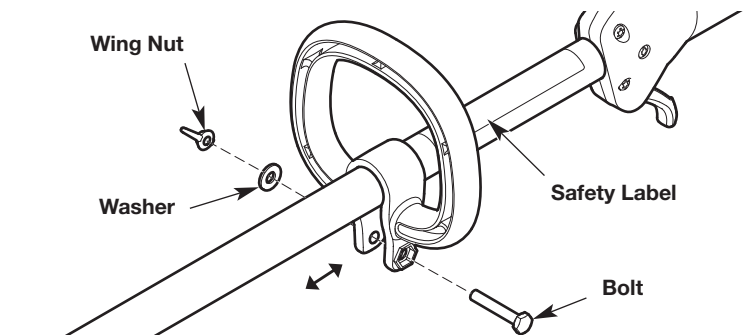

Fig. 7
2. Insert the bolt into the hex bolt hole and push it through (Fig. 7). Place the washer onto the bolt (Fig. 7). Screw the wing nut onto the bolt, but do not tighten the wing nut completely (Fig. 7).
3. Hold the unit in the operating position (Fig. 12). Move the handle up or down the upper shaft housing to a comfortable location (Fig. 7). Make sure the handle is positioned beyond the end of the safety label (Fig. 7).
1. Loosen the wing nut (Fig. 7).
2. Hold the unit in the operating position (Fig. 12). Move the handle up or down the upper shaft housing to a comfortable location (Fig. 7). Make sure the handle is positioned beyond the end of the safety label (Fig. 7).